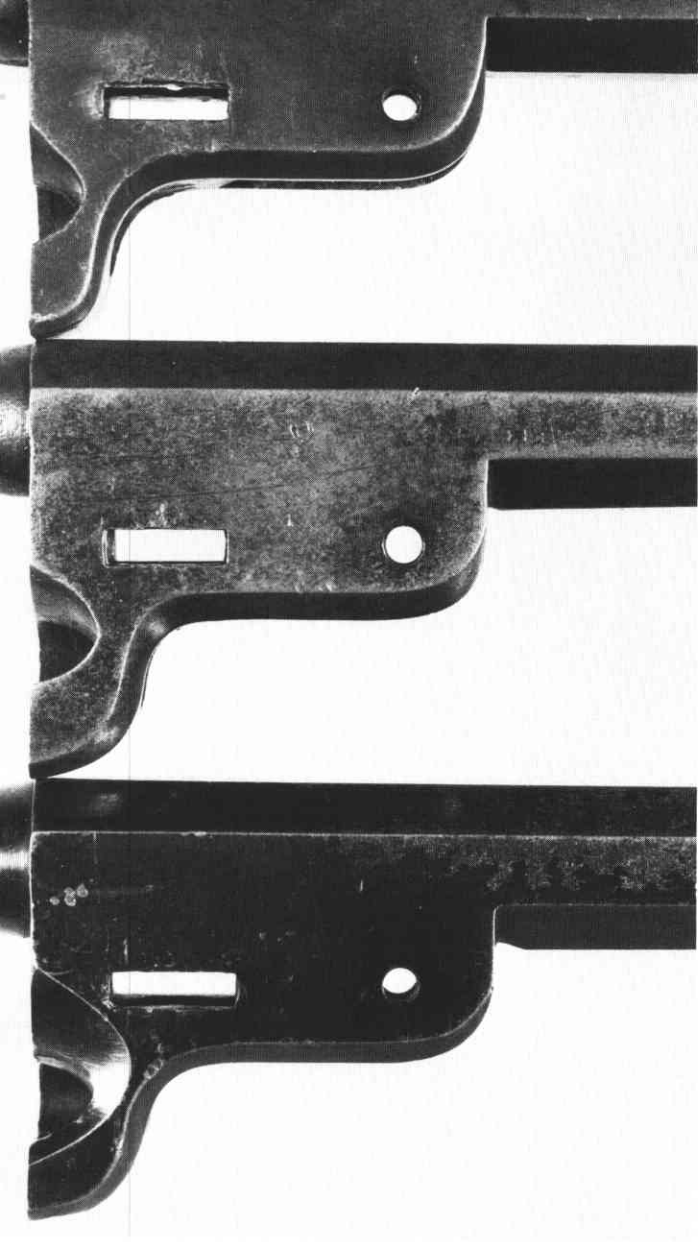

Figure 12: Loading notch in barrel lug comparison; London top two.
**Loading Notch in Barrel Lug:** On the London Navy, the loading notch or "cut-out" (see figure 12) is the "V" non-beveled type (middle and upper barrel lug), while the Hartford Navies have the "V" non-beveled type, and the beveled type. (lower barrel lug). There is a distinct difference on many of the "V" non-beveled type loading notch on London Navies, for many of them more closely